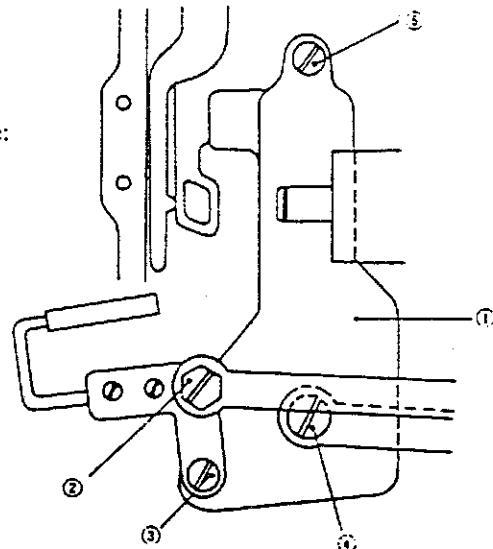

Fig. 33
Removing knife mounting base ① (Fig. 33) in the following sequence:
- 2) Loosen hinge screw ② (Fig. 33), and remove hinge screw ③ (Fig. 33).
- 3) Remove hinge screws ④ (Fig. 33) and ⑤ (Fig. 33), then, the knife mounting base can be removed.